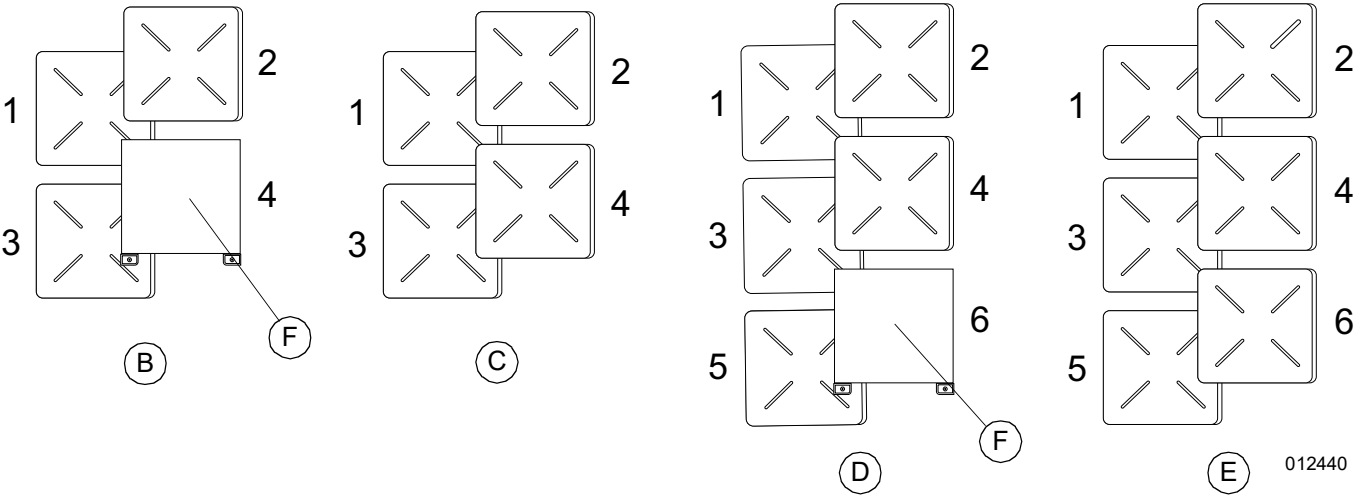

Figure 4-19. Battery Module / Spacer Order of Installation
- See Figure 4-19 for the order of battery module and spacer installation for PWRcell M3 (B), PWRcell M4 (C), PWRcell M5 (D), and PWRcell M6 (E).
See Figure 4-23. Install front battery modules (N) using the same procedure as used on the rear modules. See Figure 4-19. Battery Module / Spacer Order of Installation.